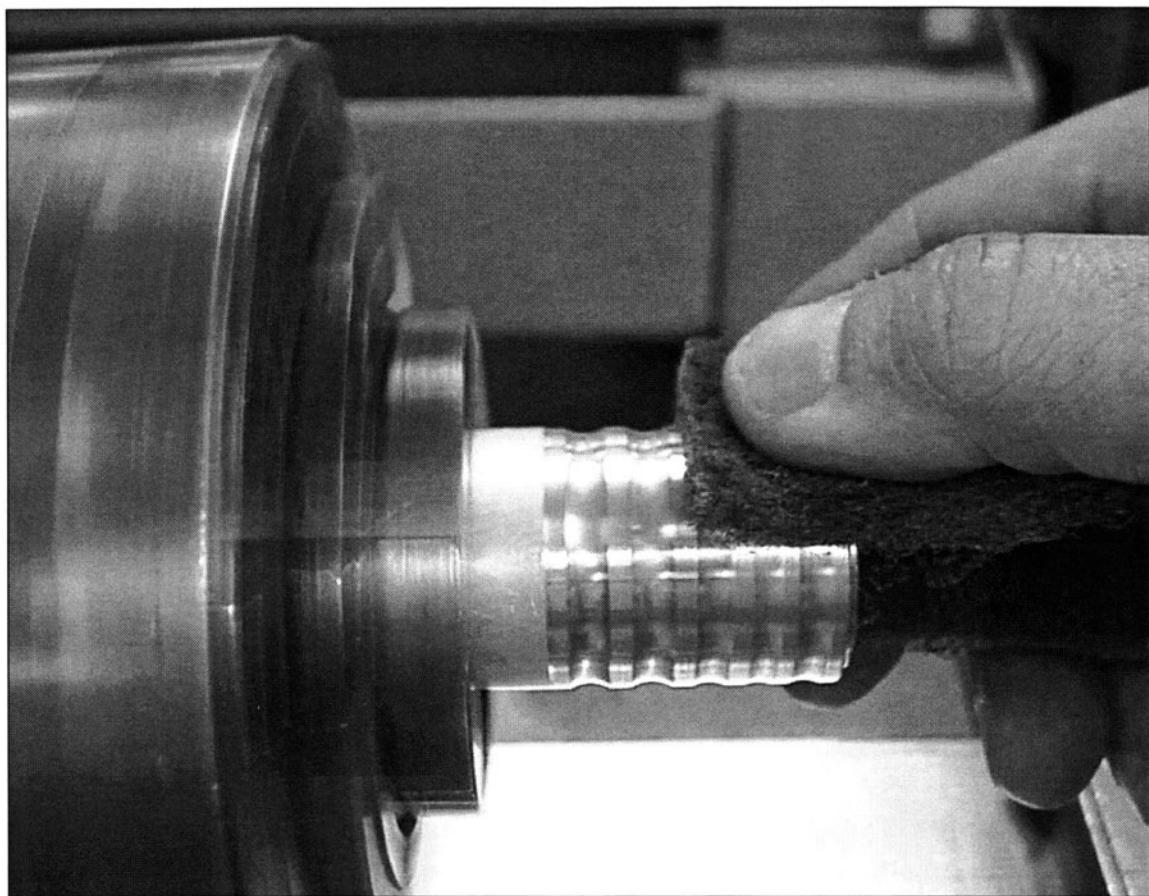

FIGURE 4-4 Scotch-Brite® has multiple uses in a machine shop. In this photo it is used to smooth rough edges.
5. *Use Scotch-Brite® to remove residue and metallic fuzz from the surface of a part. (See Fig. 4-4)*